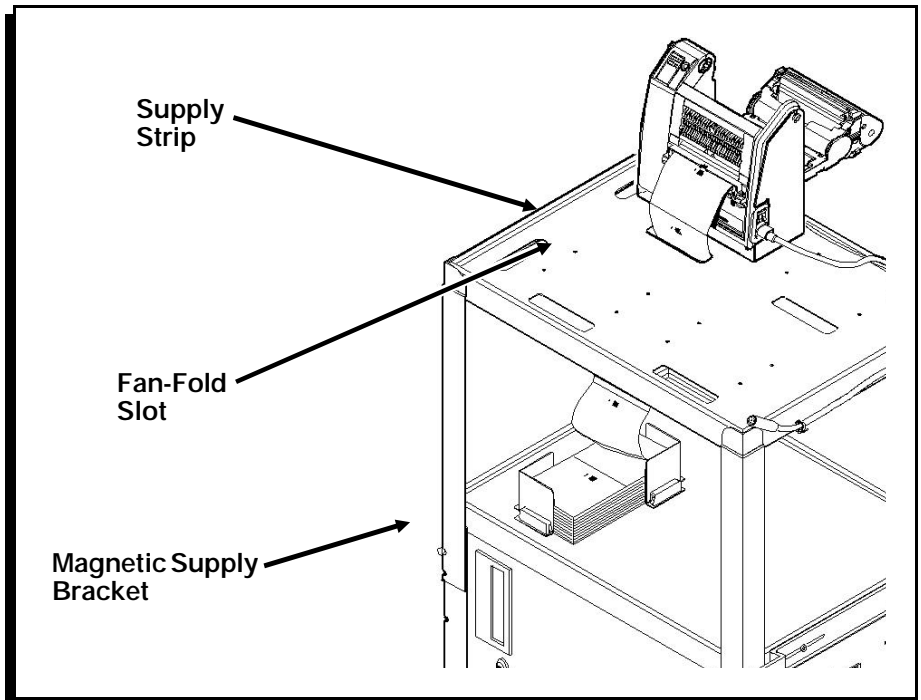

Figure 26
7. Place the supply stack on the bottom shelf, directly beneath one of the Station's fan-fold slots. The supply's liner side should face up, so the arrow next to the black mark points toward the printer. Place the magnetic supply brackets at the opposite corners of the stack as shown. (Figure 26.)
8. Lift the supply strip up through the Station's fan-fold slot. (Figure 26.)